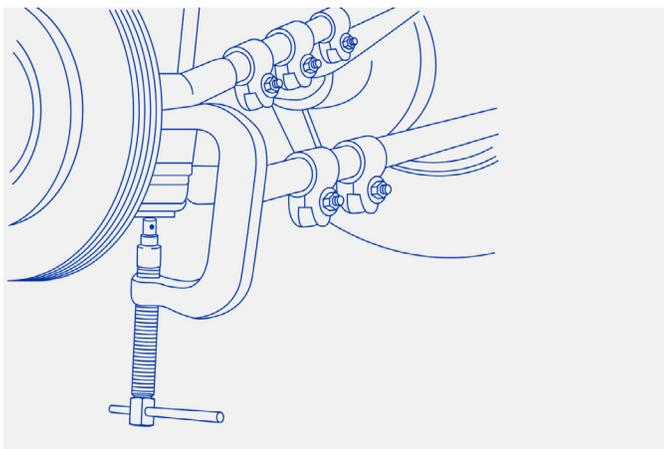

Figure 2
Step 4 – Using the appropriate tool, disconnect the tie rod end from the wheel knuckle. (Figure 2)